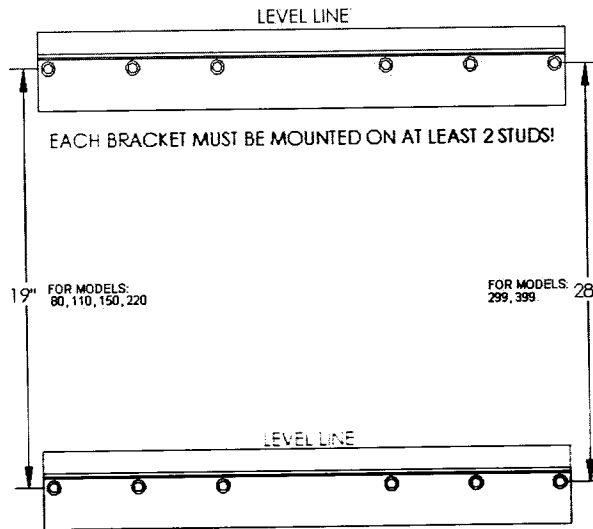

Figure 1: Wall Bracket Dimensions
1. Begin with the top bracket. Ensure the bracket is level, then mark the predrill hole locations for the top bracket height and horizontal stud location. See Figure 1.
2. Continue to the bottom bracket. Ensure the predrill hole locations for the bottom bracket are the appropriate distance from and directly below the top bracket for the given model. See Figure 1. Ensure that the four (or more) marked holes are located in the center of the building frame (studs).